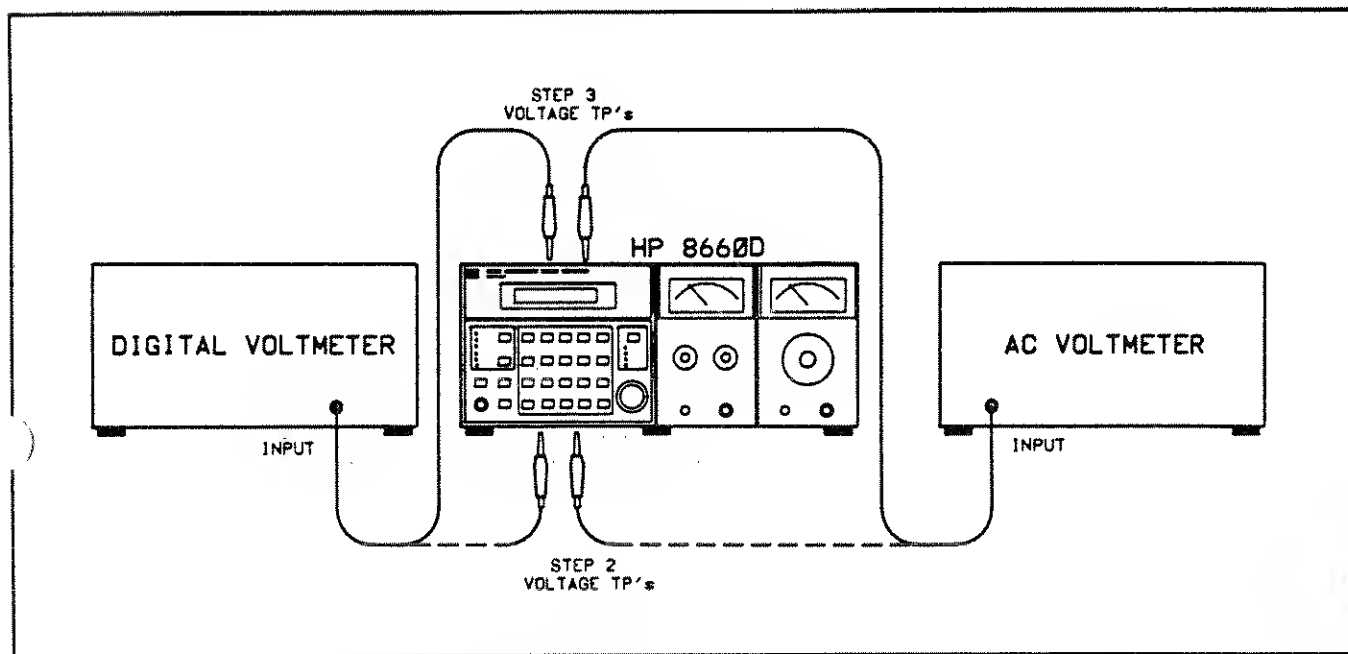

Figure 5-2. Power Supply Test Setup
1. Set up test equipment as shown in Figure 5-2.